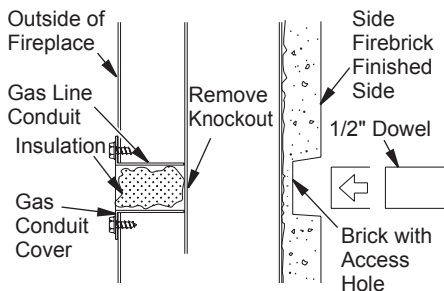

Figure 23 - Gas Line Access
1. Remove knockout indentation on refractory or firebrick wall located above refractory hearth floor. Knockout indentation must be firmly tapped with any solid object such as a 1/2" dowel until it is released. Remove fragmented portions of refractory (see Figure 23).